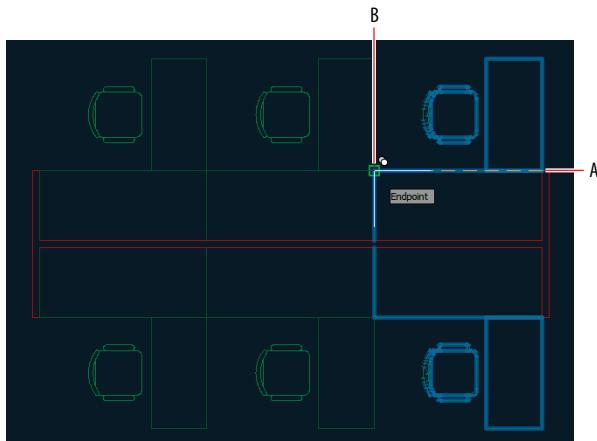

FIGURE 4.12 Copying multiple items
8. Press the spacebar to repeat the previous command, select both desks and chairs with crossing windows (but not the low partition between them), and press Enter. Select point A in Figure 4.12 as the base point. Type **A** and press Enter. The command prompt reads as follows:
9. Type **3**, press Enter, and then click point B in Figure 4.12 as the second point. Press Esc to end the **COPY** command.